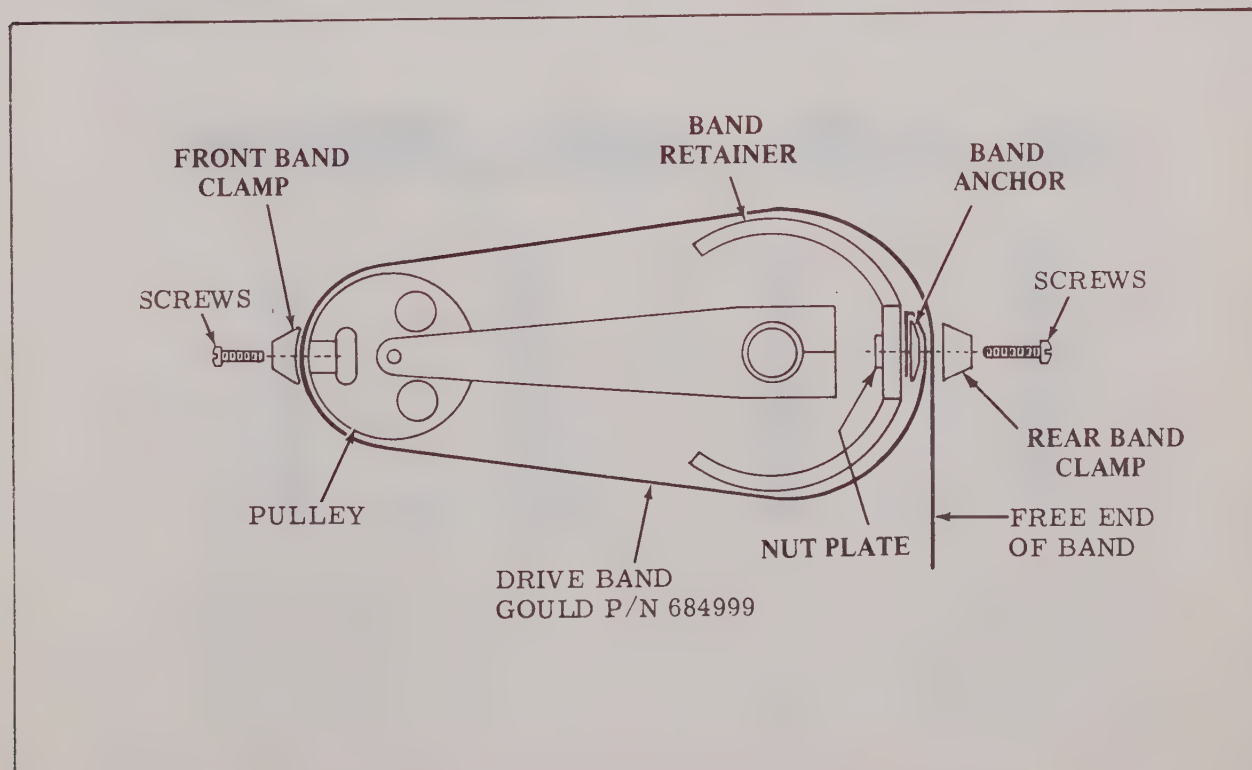

FIGURE 6-12 PENMOTOR DRIVE BAND REPLACEMENT
**NOTE:** Refer to Figure 6-12 for location of parts in capital letters.